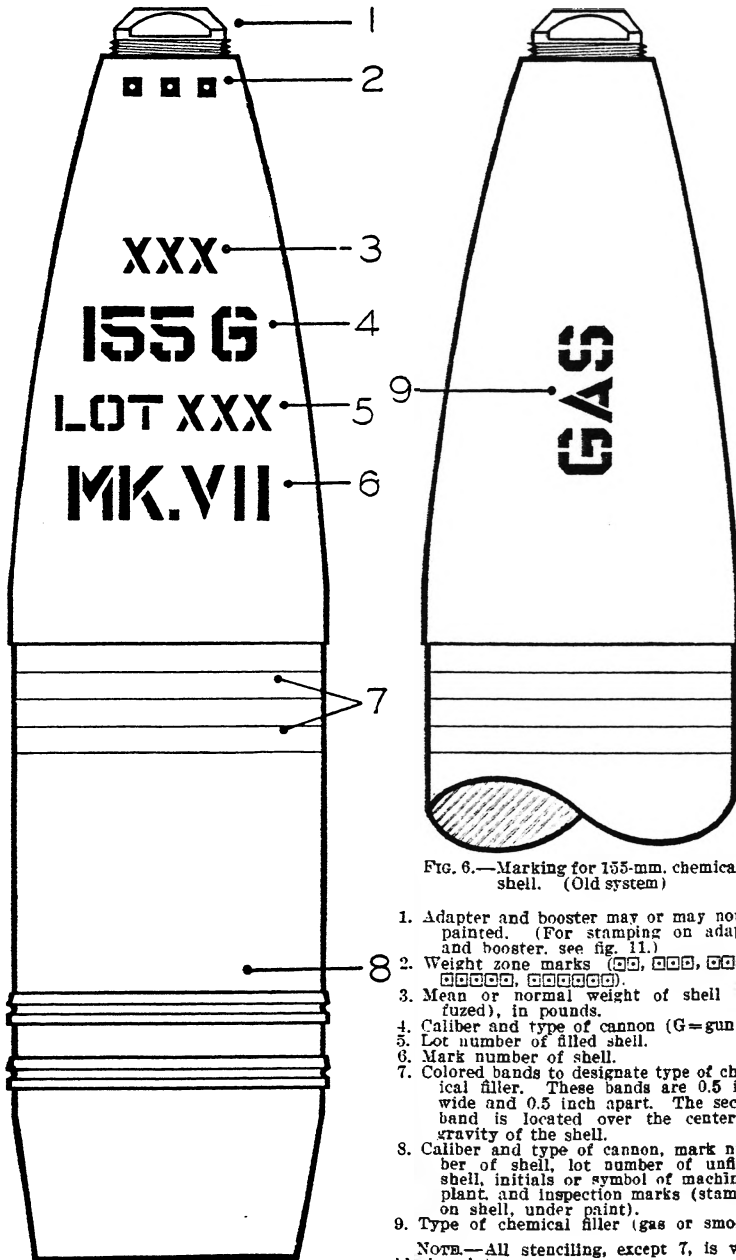

FIG. 6.—Marking for 155-mm. chemical shell. (Old system)
*b. Identification.*—(1) All Mk. VII chemical shell are painted blue gray. A change in the marking of chemical ammunition was made during 1925 and since it is not contemplated re-marking the chemical shell now in service marked in accordance with the old system and as chemical shell marked in accordance with both systems will be encountered in service for some time to come, both systems will be described in these regulations. The old marking system consisted of using a series of different-colored bands painted around the shell to designate both the specific type of chemical filler and also its effect, whereas in the new marking system, for chemical shell containing gas, the bands painted around the shell are green in color and the number of bands indicates the degree of persistency of the filler, the specific type of chemical filler being designated by lettered symbols stenciled on the shell.
(2) The old marking system is shown in Figure 6. The symbol of the chemical filler corresponding to the bands on the shell and the stencil markings on the shell to show the type of chemical filler are as follows: